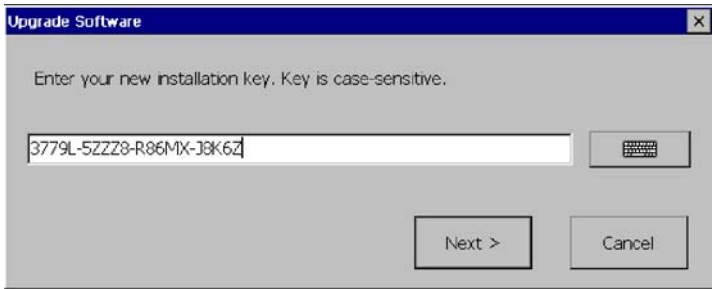

Figure D-4: Entering the Options key
5. Enter the Options key into the dialog box as shown in Figure D-4. To display the soft keyboard, tap the keyboard button to the right of the text entry box. After you enter the Options key, select **Next >**.